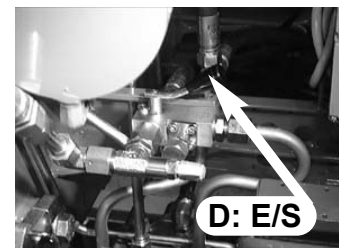

fig. 20b
- Position lever **D** of oil diverter crane-outriggers (  - **E/S**) on **E/S**. Fig. 20b